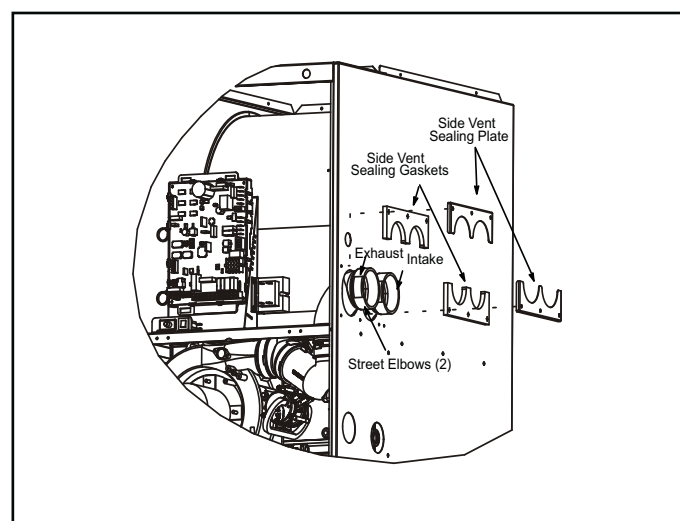

Figure 14. Right-Side Vent Configuration
Using parts provided, the furnace may be field modified to have these connections on the right side of the furnace cabinet. See Figure 14 and follow steps 1-13 below.
11. Peel protective backing from side vent sealing gaskets (2) and apply to side vent sealing plates (2) as shown in Figure 14.
12. Install the side vent sealing plates and gaskets on the exterior of the cabinet as shown in Figure 14. Secure with six mounting screws (four reused and two provided from bag assembly). Holes are pre-punched in the parts and cabinet, no drilling is required.